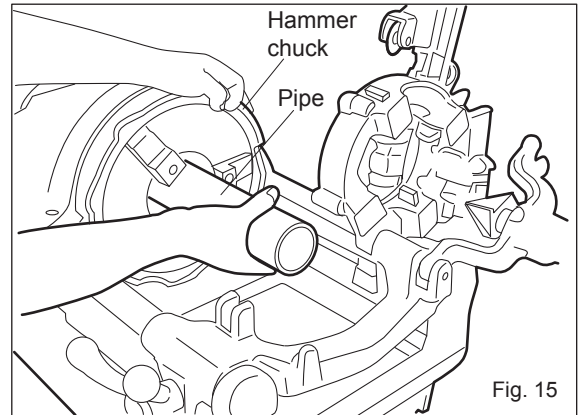

Fig. 15
- Open the hammer chuck and rear chuck wider than the size of the pipe to be threaded and insert the pipe from the rear chuck side where possible. (Fig. 15) (In the case of a short pipe, insert a pipe from the chuck side.)